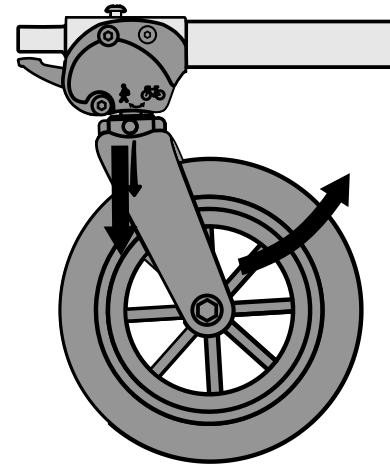
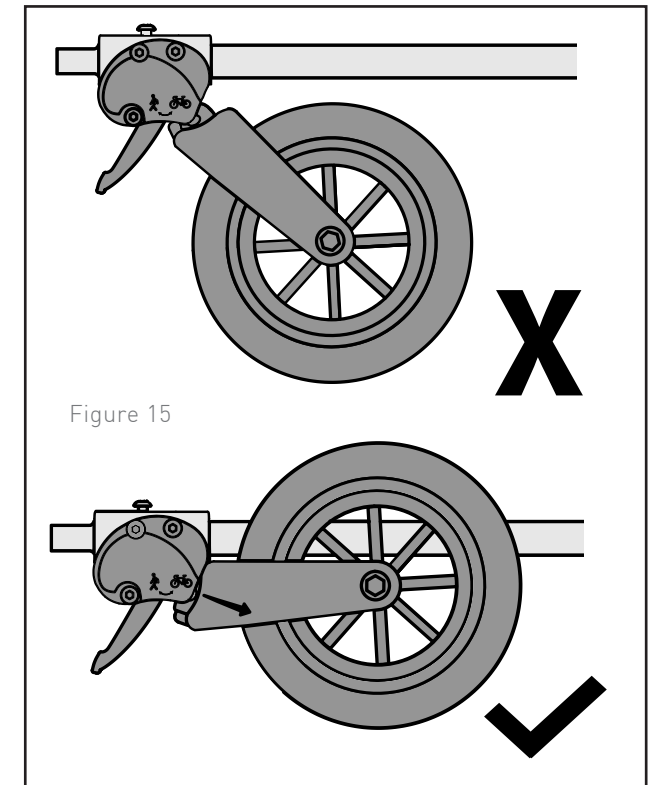

Figure 14
Figure 15
1. Pull fork down (Figure 14) and rotate up into trailer mode as shown. Fork will automatically lock into trailer position when positioned correctly (Figure 15).